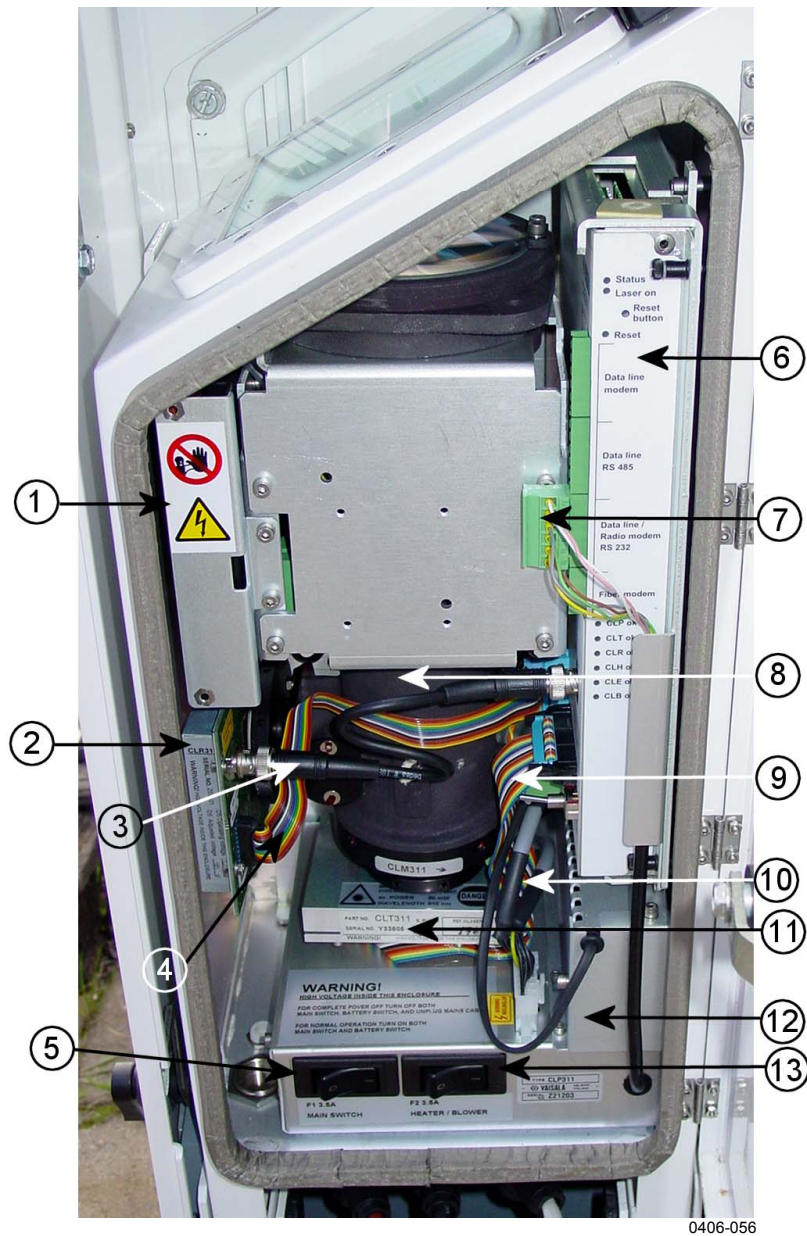

Figure 17 CL31
4. To detach the receiver, loosen the receiver ring by turning it downwards. If necessary, you can use a 2.5-mm Allen key as a lever. Remove the receiver from the unit. Refer to numbers 3 and 4 in Figure 17 on page 96.
The following numbers refer to Figure 17 on page 96.